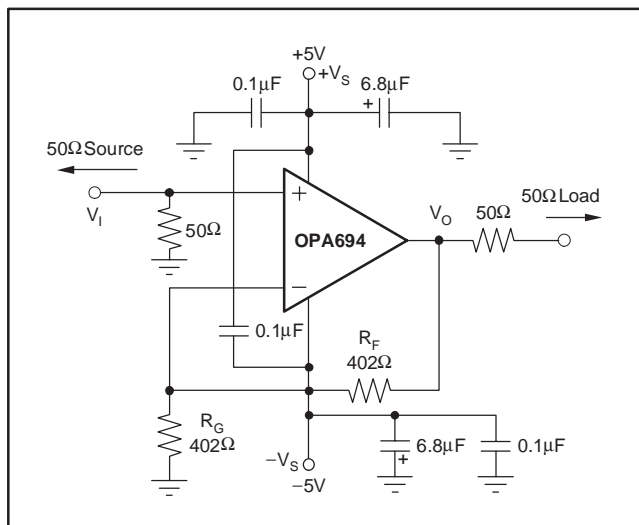
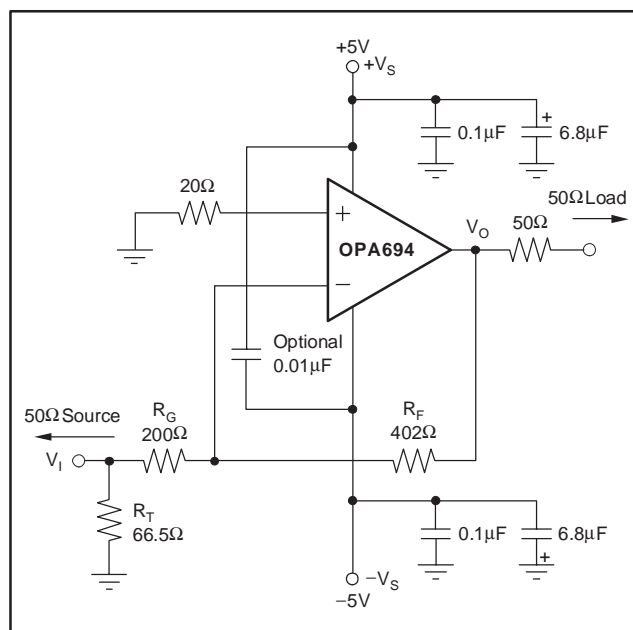
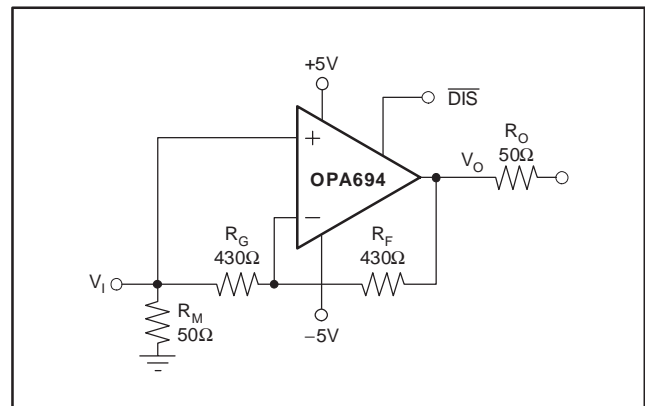
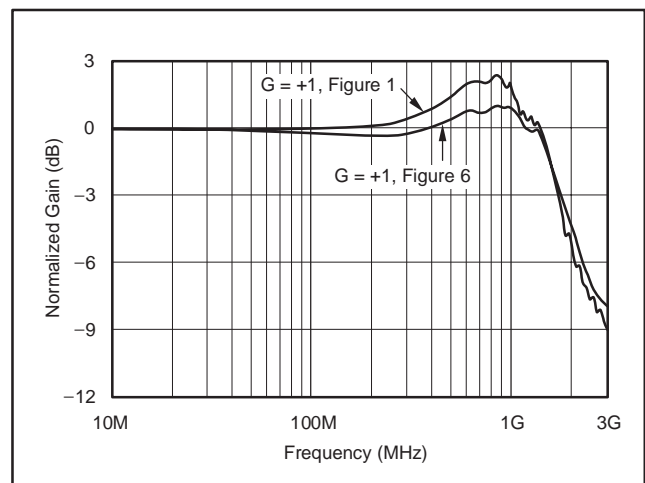

Figure 1. DC-Coupled, G = +2, Bipolar-Supply Specification and Test Circuit
Figure 2. DC-Coupled, G = -2 V/V, Bipolar-Supply Specification and Test Circuit
Figure 6. IF Amplifier Driving SAW Filter
Figure 7. IF Amplifier Driving SAW Filter
Figure 1 shows the DC-coupled, gain of +2, dual power-supply circuit configuration used as the basis of the ± 5 V Electrical Characteristic tables and Typical Characteristic curves. For test purposes, the input impedance is set to 50 Ω with a resistor to ground and the output impedance is set to 50 Ω with a series output resistor. Voltage swings reported in the Electrical Characteristics are taken directly at the input and output pins, while load powers (dBm) are defined at a matched 50 Ω load. For the circuit of Figure 1, the total effective load will be 100 Ω || 804 Ω = 89 Ω . One optional component is included in Figure 1. In addition to the usual power-supply decoupling capacitors to ground, a 0.1 μ F capacitor is included between the two power-supply pins. In practical PC board layouts, this optional added capacitor will typically improve the 2nd-harmonic distortion performance by 3dB to 6dB.
Figure 2 shows the DC-coupled, gain of -2 V/V, dual power-supply circuit used as the basis of the inverting Typical Characteristic curves. Inverting operation offers several performance benefits. Since there is no common-mode signal across the input stage, the slew rate for inverting operation is higher and the distortion performance is slightly improved. An additional input resistor, R_T , is included in Figure 2 to set the input impedance equal to 50 Ω . The parallel combination of R_T and R_G sets the input impedance. Both the noninverting and inverting applications of Figure 1 and Figure 2 will benefit from optimizing the feedback resistor (R_F) value for bandwidth (see the discussion in *Setting Resistor Values to Optimize Bandwidth*). The typical design sequence is to select the R_F value for best bandwidth, set R_G for the gain, then set R_T for the desired input impedance. As the gain increases for the inverting configuration, a point will be reached where R_G will equal 50 Ω , where R_T is removed and the input match is set by R_G only. With R_G fixed to achieve an input match to 50 Ω , R_F is simply increased, to increase gain. This will, however, quickly reduce the achievable bandwidth, as shown by the inverting gain of -10 frequency response in the Typical Characteristic curves. For gains > 10 V/V (14dB at the matched load), noninverting operation is recommended to maintain broader bandwidth.
The unity gain buffer configuration of Figure 1 shows a peaking in the frequency response exceeding 2dB. This gives the slight amount of overshoot and ringing apparent in the gain of $+1V/V$ pulse response curves. A similar circuit that holds a flatter frequency response, giving improved pulse fidelity, is shown in Figure 6.
This circuit removes the peaking by bootstrapping out any parasitic effects on R_G . The input impedance is still set by R_M as the apparent impedance looking into R_G is very high. R_M may be increased to show a higher input impedance, but larger values will start to impact DC output offset voltage. This circuit creates an additional input offset voltage as the difference in the two input bias currents times the impedance to ground at V_1 . Figure 7 shows a comparison of small-signal frequency response for the unity gain buffer of Figure 1 compared to the improved approach shown in Figure 6. Either approach gives a low-power unity-gain buffer with $> 1.56\text{GHz}$ bandwidth.
The OPA694 provides good distortion performance into a 100Ω load on $\pm 5V$ supplies. Generally, until the fundamental signal reaches very high frequency or power levels, the 2nd-harmonic will dominate the distortion with a negligible 3rd-harmonic component. Focusing then on the 2nd-harmonic, increasing the load impedance improves distortion directly. Remember that the total load includes the feedback network—in the noninverting configuration (see Figure 1), this is the sum of $R_F + R_G$, while in the inverting configuration it is just R_F . Also, providing an additional supply decoupling capacitor ($0.1\mu F$) between the supply pins (for bipolar operation) improves the 2nd-order distortion slightly (3dB to 6dB).
Evaluating these two equations for the OPA694 circuit and component values (see Figure 1) gives a total output spot noise voltage of $11.2\text{nV}/\sqrt{\text{Hz}}$ and a total equivalent input spot noise voltage of $5.6\text{nV}/\sqrt{\text{Hz}}$. This total input-referred spot noise voltage is higher than the $2.1\text{nV}/\sqrt{\text{Hz}}$ specification for the op amp voltage noise alone. This reflects the noise added to the output by the inverting current noise times the feedback resistor. If the feedback resistor is reduced in high-gain configurations (as suggested previously), the total input-referred voltage noise given by Equation (5) will approach just the $2.1\text{nV}/\sqrt{\text{Hz}}$ of the op amp itself. For example, going to a gain of +10 using $R_F = 178\Omega$ will give a total input-referred noise of $2.36\text{nV}/\sqrt{\text{Hz}}$.
A current-feedback op amp like the OPA694 provides exceptional bandwidth in high gains, giving fast pulse settling, but only moderate DC accuracy. The Electrical Characteristics show an input offset voltage comparable to high-speed, voltage-feedback amplifiers. However, the two input bias currents are somewhat higher and are unmatched. Whereas bias current cancellation techniques are very effective with most voltage-feedback op amps, they do not generally reduce the output DC offset for wideband, current-feedback op amps. Since the two input bias currents are unrelated in both magnitude and polarity, matching the source impedance looking out of each input to reduce their error contribution to the output is ineffective. Evaluating the configuration of Figure 1, using worst-case +25°C input offset voltage and the two input bias currents, gives a worst-case output offset range equal to:
As a worst-case example, compute the maximum T_J using an OPA694IDBV (SOT23-5 package) in the circuit of Figure 1 operating at the maximum specified ambient temperature of +85°C and driving a grounded 20Ω load to +2.5V DC: